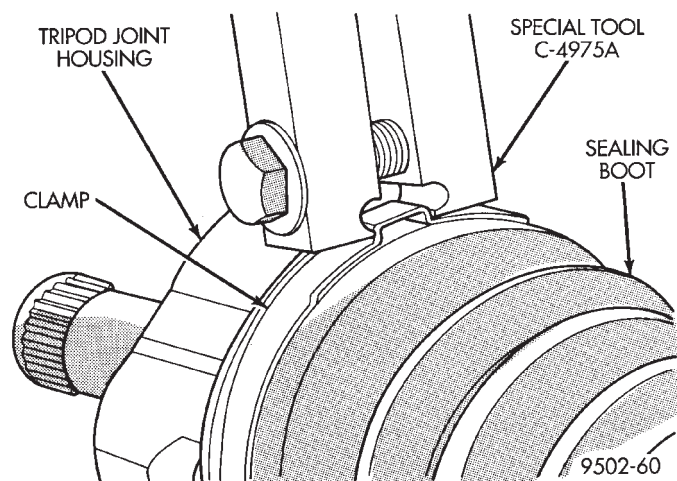

Fig. 38 Crimping Tool Installed on Sealing Boot Clamp
- Place crimping tool C-4975-A over bridge of clamp (Fig. 38).